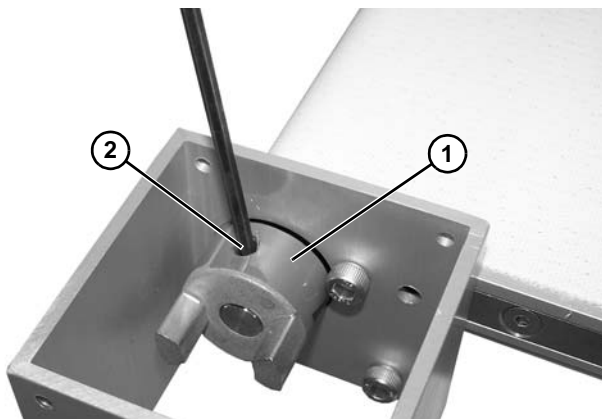

Figure 25
8. Install new 3 jaw coupling (Figure 25, item 1) on the conveyor shaft so that the coupling is flush with the end of the shaft. Tighten set screw (Figure 25, item 2) to 15 in-lb (1.7 Nm).